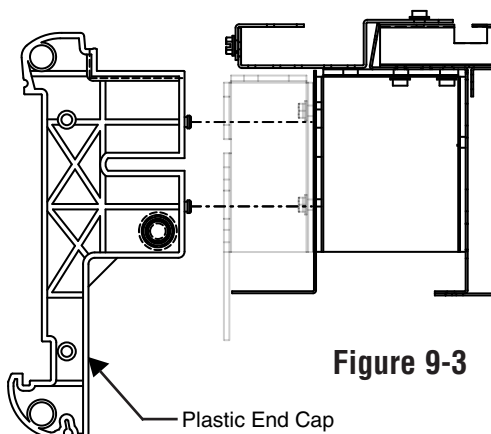

Figure 9-3
- C. Replace plastic end caps and night curtain brackets as shown in Fig. 9-3 and 9-4.